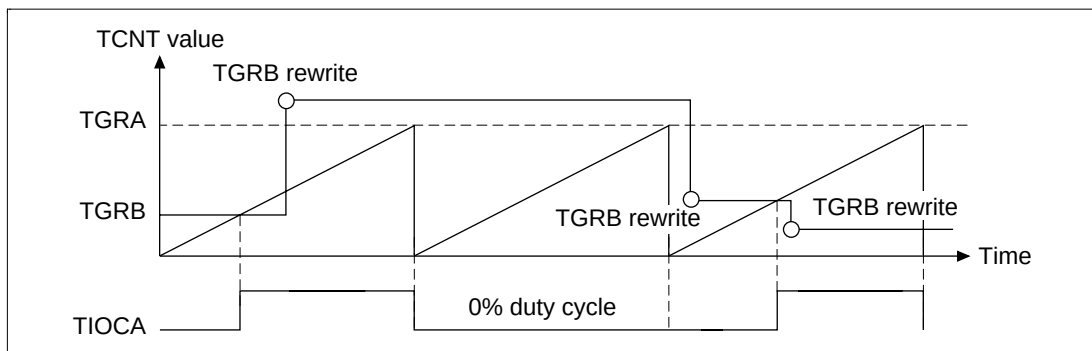

**Figure 12.27 PWM Mode Operation Example (0% Duty Cycle)**
**0% Duty Cycle:** Figure 12.27 shows an example of a 0% duty cycle PWM waveform output in PWM mode.